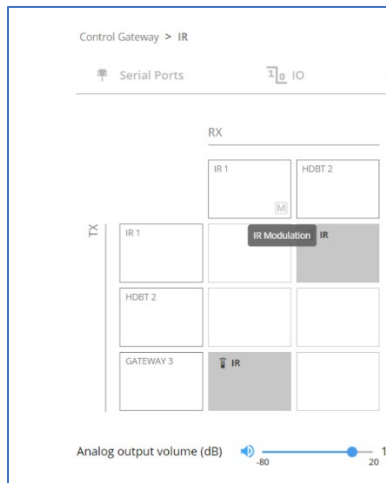

Figure 45: IR Modulation Method Setting
4. If needed, select modulation method by pressing **M** on Rx IR 1 cell (see \(Figure 45\)).